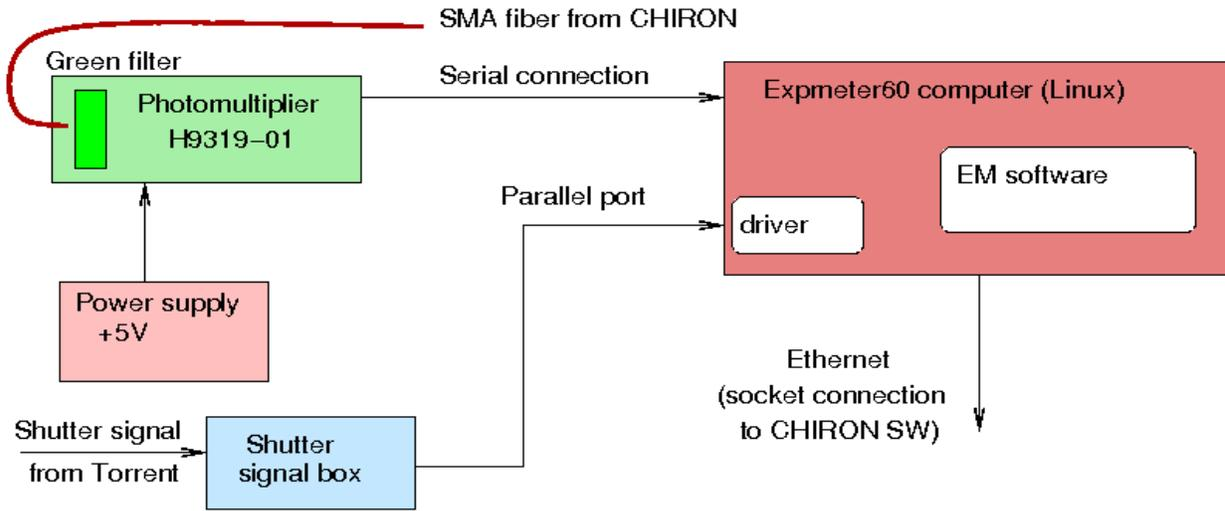

Figure 1. Block-diagram of EM hardware and connections.
Figure 1 shows main components of the EM and their connections. The PMT is Hamamatsu H9319-01. It is housed in a light-tight metal box, with a green filter (Chroma D545/80x) in front of it. The fiber is “scotched” into the box (no connector). The device is powered by 5V. Digitized counts are read by the computer, which also turns the high voltage (HV) ON or OFF. There is no built-in over-light protection, the PMT will be damaged if exposed to ambient light with HV ON! The EM software switches HV OFF if the detected flux exceeds a certain threshold.